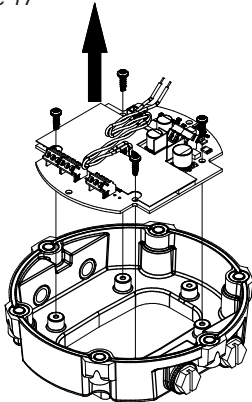

Figure 18
- Flip the cover plate over and remove (4) screws retaining the PC board assembly (see Figure 18).